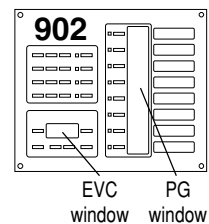

Figure 39.
- If the numeric displays begin flashing at any time during the module scan, two or more modules have the same address. Duplicate addresses are disallowed because the control panel is unable to tell two identically addressed modules apart. Note the last group number displayed in the Product Group windows and the module number displayed in the EVC window and try to find two modules that both have this address. For example, if the control panel is flashing, the EVC window displays 002, and the third Product Group window shows S4, you would look for two speaker modules (932) with the same address of “Group 4, Module 02, Right.” Remember that pairs of speaker modules must have the same Group and Module ID address, but must be identified LEFT and RIGHT to avoid a duplication (see page 18).
- As each new group number appears in a PG window (Product Group, Figure 39), the EVC window counts up the number of modules in that group that can be recognized. Write down the highest number reported in the EVC window and the Group number with it. For each group, compare the reported module tally with a physical count of the modules. For example, your system has four “E Group 0” modules, six “E Group 4” modules, and three pairs of “S Group 4” modules. The top PG window displays “E0” as EVC scans up to 4 (good), the second PG window displays “E4” as EVC scans up to 5 (bad), and the third PG window displays “S4” as EVC scans up to 3 (good). In this case you would look for a mis-addressed, unplugged, or faulty E4 module (Electronics Group 4).